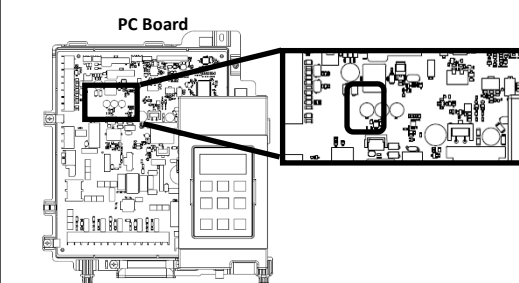

Fig 5. SW 1 Button on PC Board
- 1. To access the parameter settings, press and hold the SW 1 Button on the PC Board for five seconds (Fig 5). 00-R appears on the display (Fig 6).